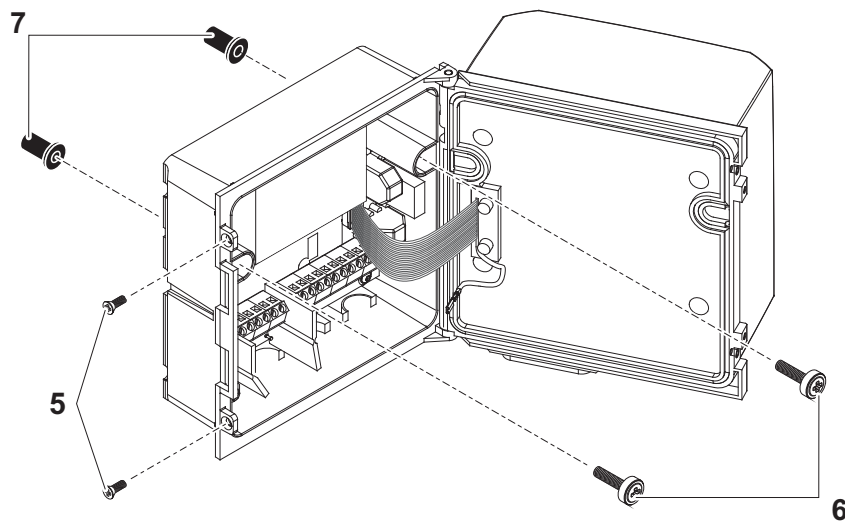

figure 3-19 Mounting the sun shield: Premounting the ISO blind nuts
- 2 Remove the two countersunk screws (pos. 5 in figure 3-19) and swing open the lid.
- 3 Insert the cheese-head screws (pos. 6 in figure 3-19) with the plastic washers in the drilled mounting holes and loosely screw in the ISO blind nuts (pos. 7).